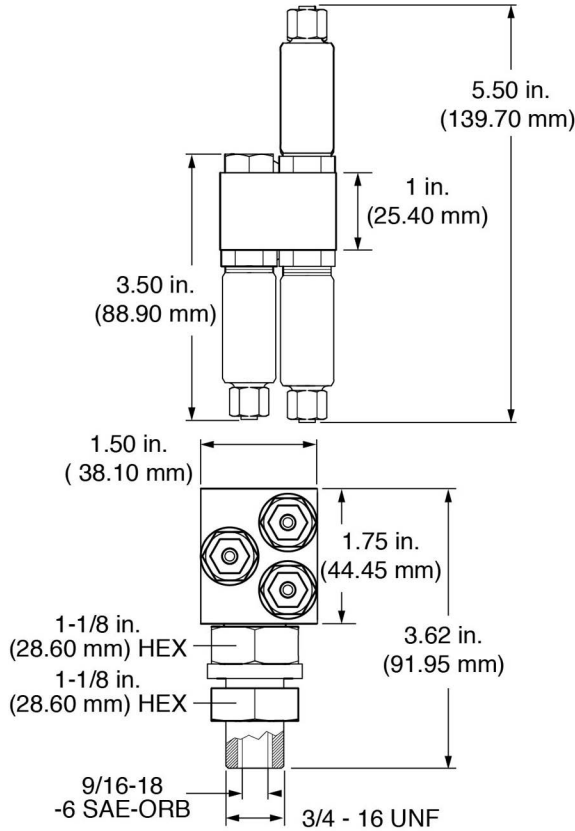

FIG. 38
- 6 port manifold - used in lubrication systems with 6 or less lubrication points (FIG. 36 and FIG. 38).
- 12 port manifold - used in lubrication systems with 7 to 12 lubrication points (FIG. 37 and FIG. 38).